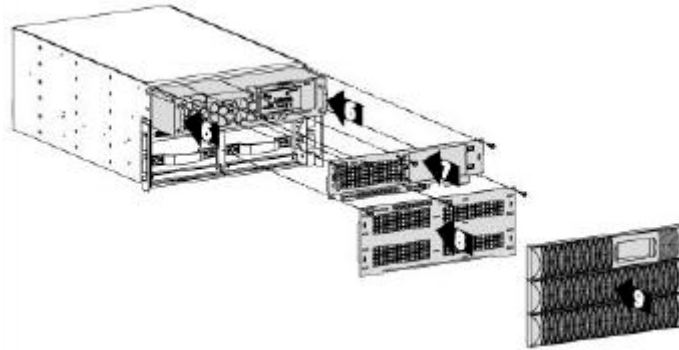

FIG 76 – 10KVA POWER UNIT REINSTALL
7. Slide in the new power module until the rear connector of the power module is plugged into the socket on the UPS (FIG 76).